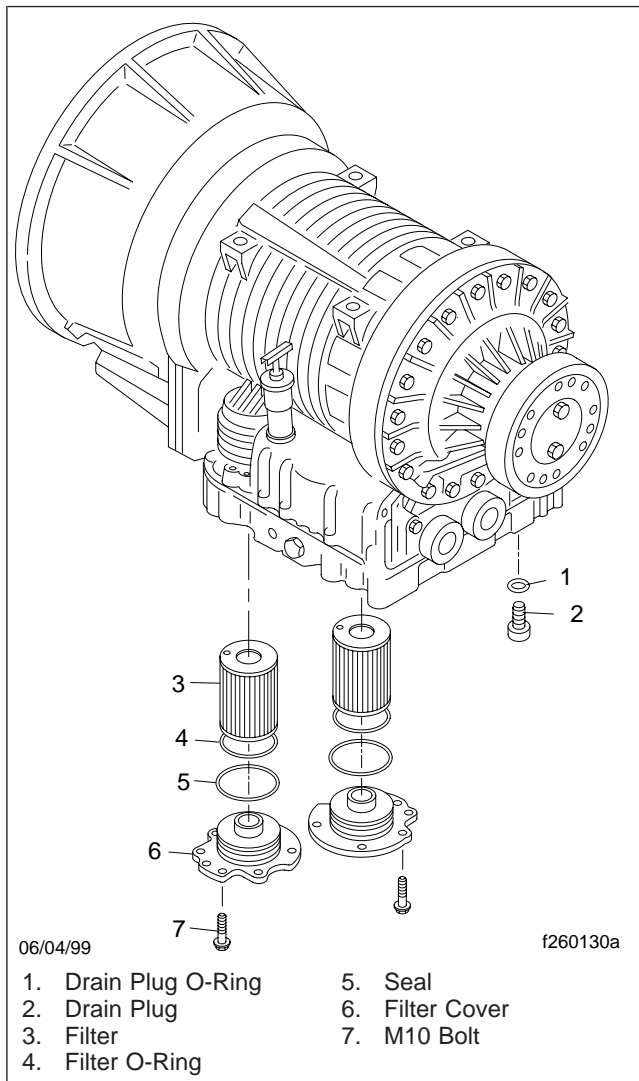

Fig. 3, MD Series Transmission
1. See Fig. 3. Park the vehicle on a level surface and set the parking brake.
2. Run the engine until the transmission fluid reaches an operating temperature of 160 to 200°F (71 to 93°C). Shift the transmission to Neutral (N) and shut down the engine.